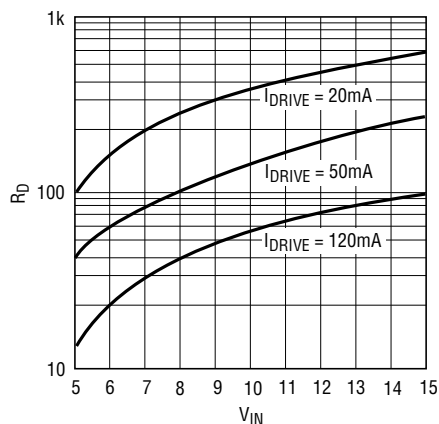

Figure 4. RD Resistor Value
Figure 4 can be used to select the value of RD based on the required drive current and the minimum input voltage. Curves are shown for 20mA, 50mA, and 120mA drive current corresponding to the specified base drive currents for the MJE1123. The data for the curves was generated using the following formula:
2. The next step is to determine the value of  $R_D$ . Based on 50mA of drive current and a minimum input voltage of 5.5V, we can select  $R_D$  from the graph of Figure 4. From the graph the value of  $R_D$  is equal to 50Ω, so we should use the next lowest 5% value which is 47Ω.